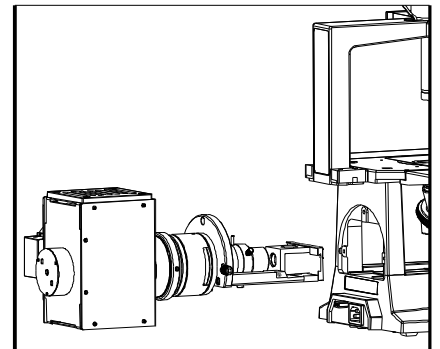
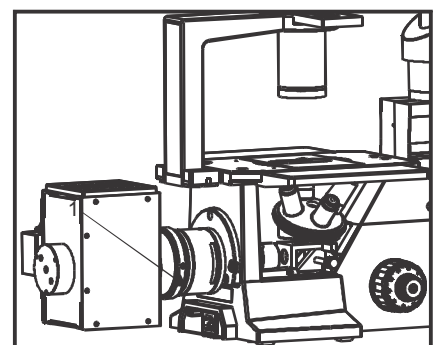

Fig. 4
Fig. 5
3. Assemble attachment in the microscope as shown in Fig. 4 and secure it with 3 Nos of Screws. Then install filter in the guide slot as shown in Fig. 5.